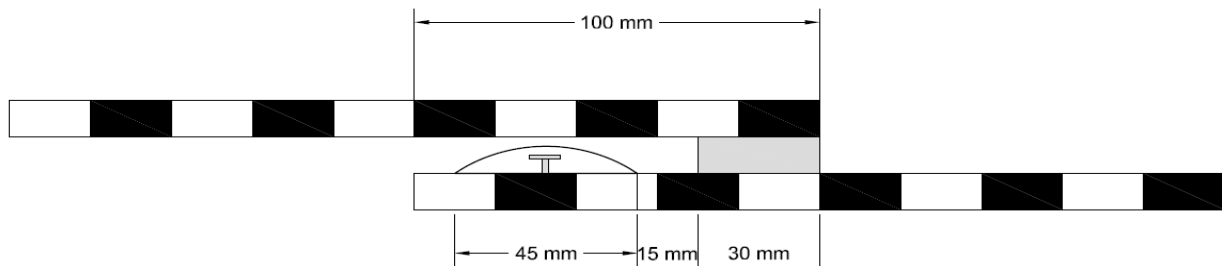

Figure 3
- ii. Mechanical fixation (Figure 3):